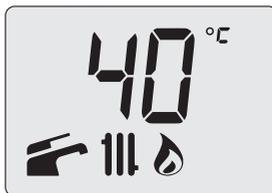

Figure 7.13
- Press 17 (Figure 7.2) to exit “programming mode” (Figure 7.13).